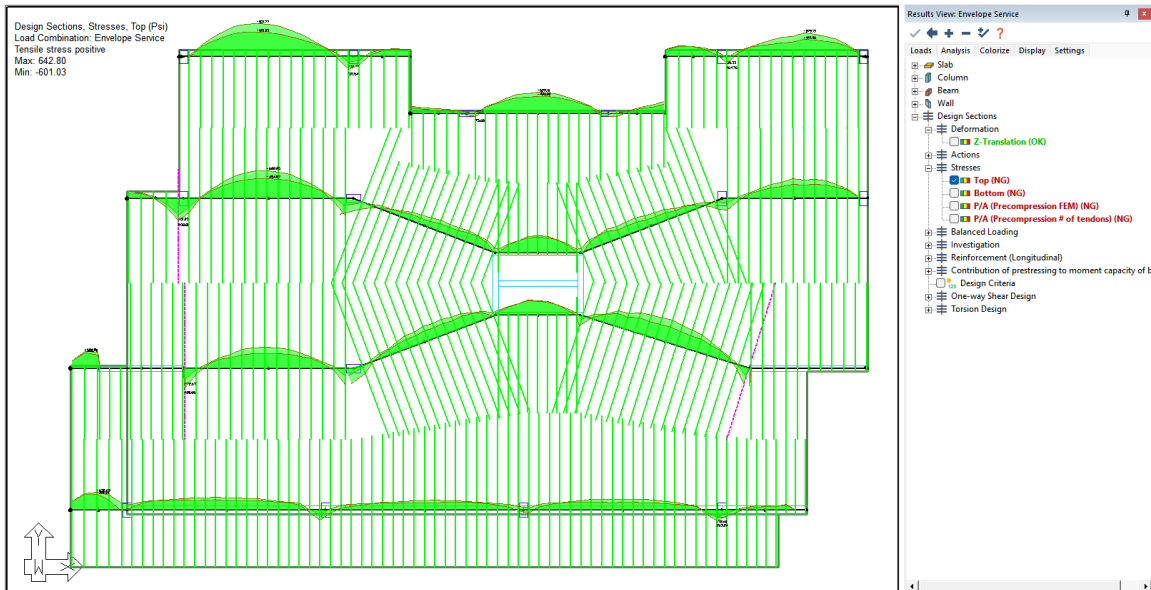

FIGURE 9-93
- You should now see on screen the design section stress results for the support lines in the X-direction for top stresses as shown in **FIGURE 9-93**.